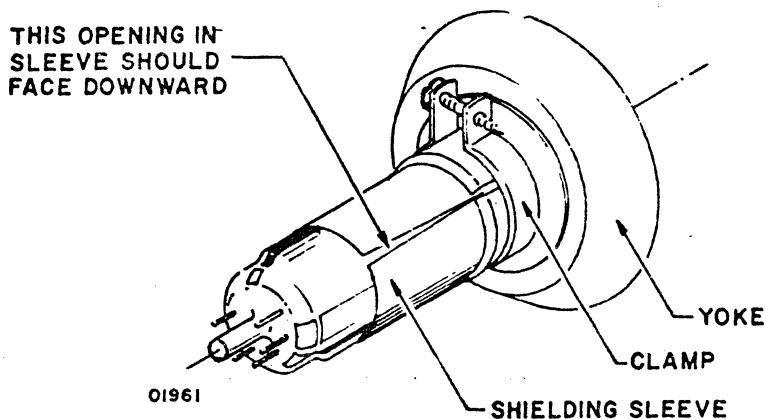
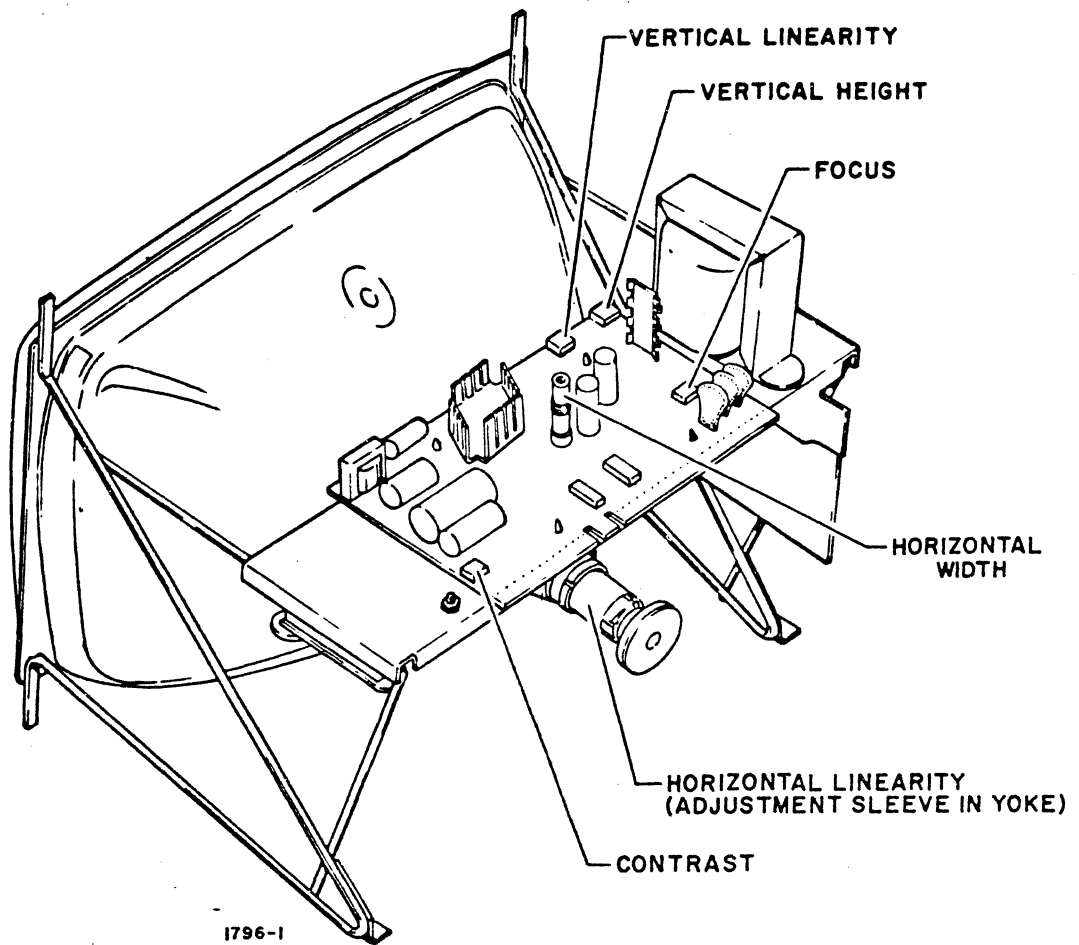

Figure CRT19. Shielding Sleeve Positioning
Figure CRT20. Focus, Contrast, and Vertical Linearity
- 12) Check that shielding sleeve between yoke and neck of crt is in place approximately as shown in figure CRT19. If shielding sleeve is not correctly positioned, left side of screen will be distorted while right side is not, or right side of screen is distorted while left is not. Pushing shielding sleeve inward toward the yoke has the effect of distorting left portion of screen; if pushed all the way forward, the entire left-half of screen is blacked out. If characters on screen are not uniformly distorted on one side as opposed to the other side, but, instead, H characters are compressed on top and not bottom, or characters are compressed on bottom and not top, the problem is in the adjustment of the vertical linearity potentiometer (figure CRT20). If vertical linearity cannot be improved by adjusting vertical linearity potentiometer, replace vertical choke (procedure CRT16) and try to adjust vertical linearity again.